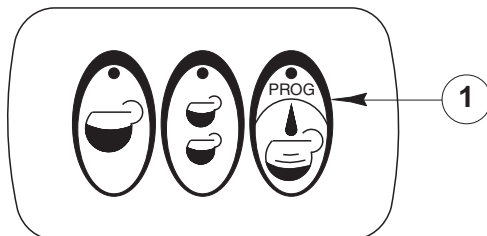

Fig. 2
- 4) Press one of the keys of the coffee distribution keypad (fig. 2) according to the desired dose.
The machine is preset for the continuous distribution: press the key "PROG" (fig. 2; pos. 1) to start the distribution, press it again to stop it.
To program every single dose, do what follows: keep pressed the key "PROG" relative to the continuous dose programming (fig. 2; pos. 1) for about 5 seconds until the LED blinks.
Press the key "PROG" (fig. 2; pos. 1) several times for version BZ02 DE.